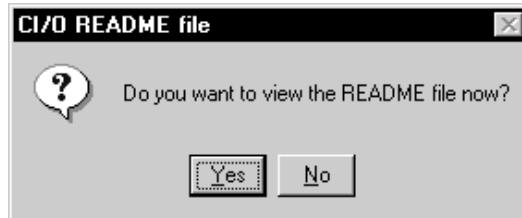

Figure 2-8. CI/O ReadMe file
**11** Click on **Next** to begin copying files. When the files are copied, the CI/O ReadMe file appears as shown in Figure 2-8.